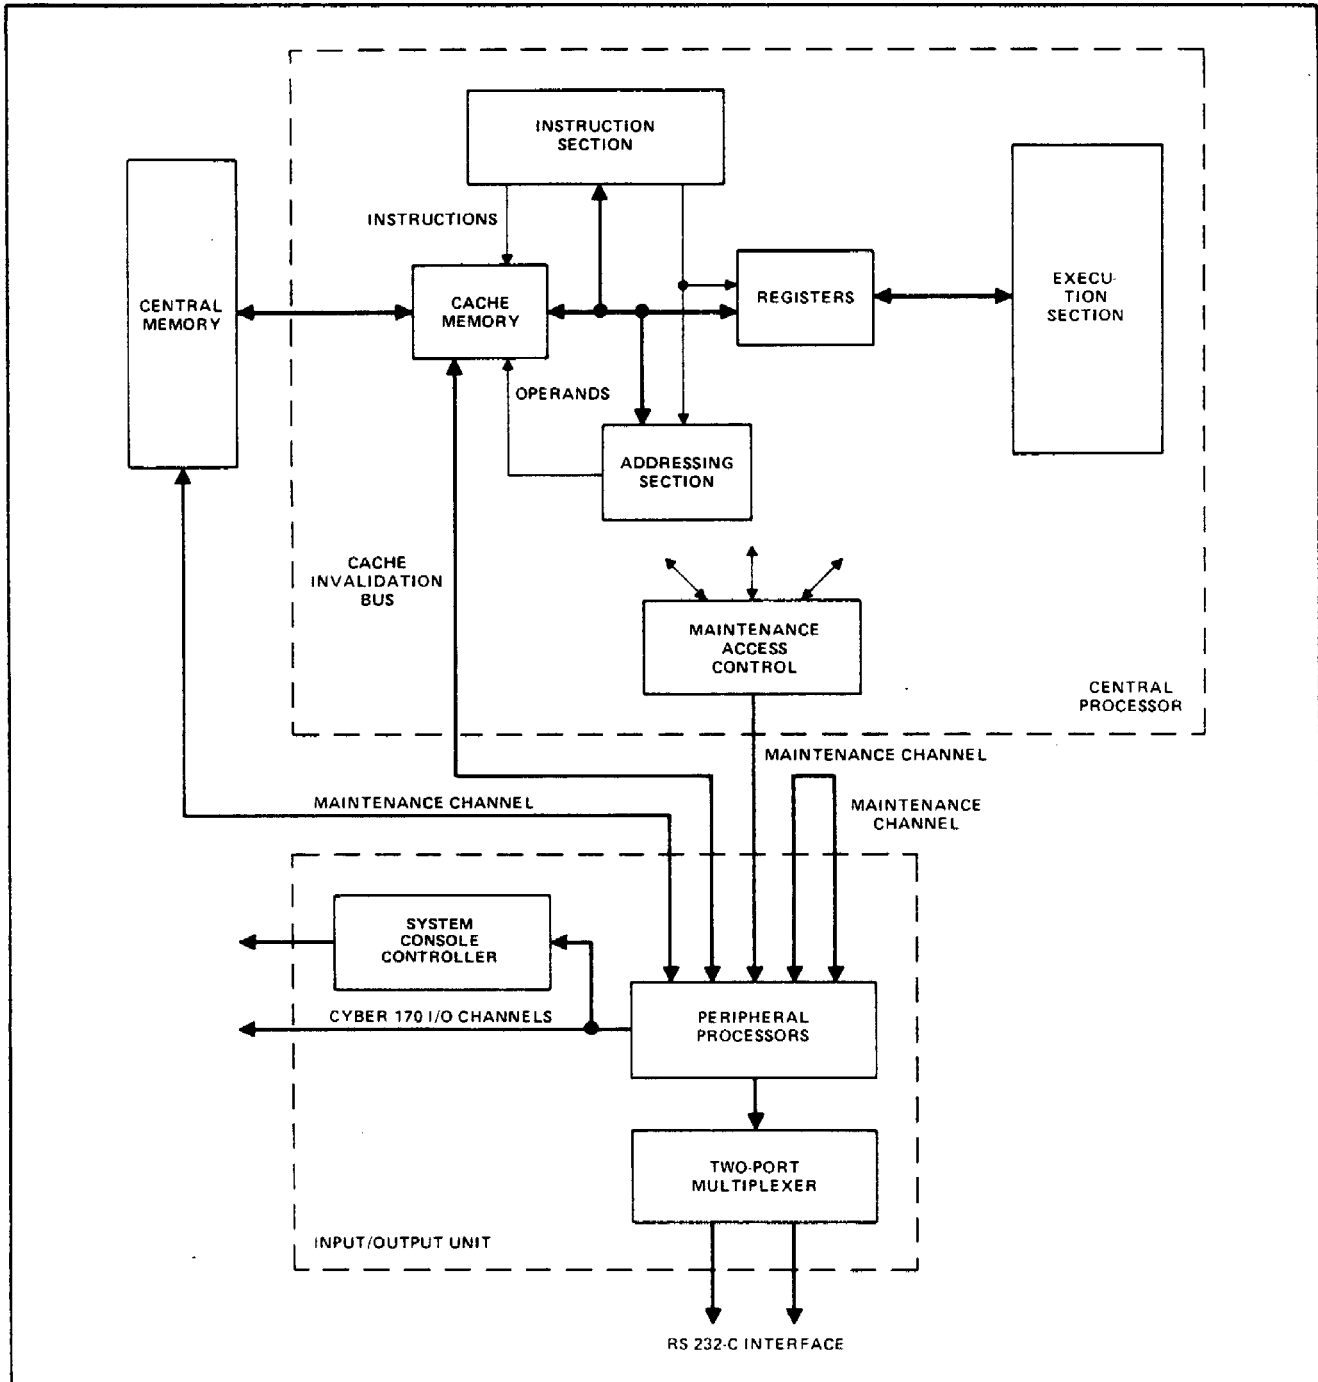

Figure 1-2. System Block Diagram
The remainder of the chapter provides brief descriptions of the major system components. The descriptions refer to the computer system block diagram (figure 1-2).
The central processor (CP) hardware (figure 1-2) consists of the following.
The CM (figure 1-2) consists of the following items.